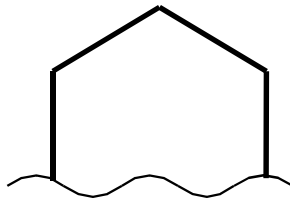

Figure 9-2 Paper Edge (Manual Load)
(1) Inserting the paper manually:
- ① Put the printer to the head up state.
- ② Cut the edge of the paper as shown in **Figure 9-2**.